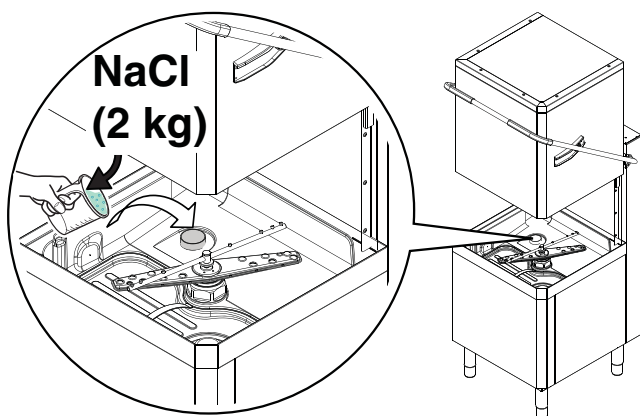

Figure 29 Add the salt
- Pour approx. 1.5 kg of coarse salt [NaCl] in container "A" (an amount sufficient to fill the salt container up to the rim) using the special funnel supplied (Figure 29).